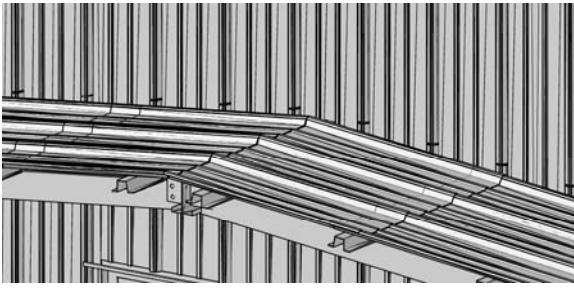

FIGURE 11
1. Place the Ridge Roof Sheet and (2) End Roof Sheets on to the Hat Purlins. Center the sheets and slide them against the building wall sheets as shown. Mark each of the wall corrugations at the top of the roof panel per **Figure 11**.